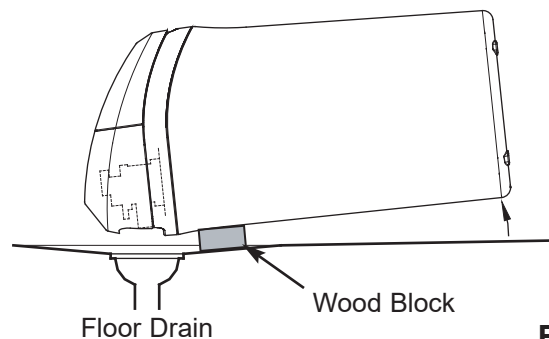

FIG. 36
6. Lay a piece of 5 cm thick board near the floor drain (See Figure 36).